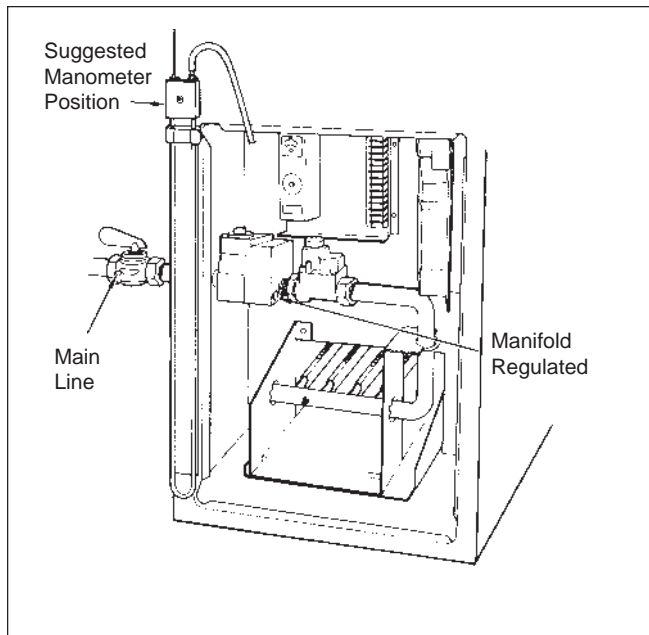

Figure 34. Gas pressure test.
1. Attach a manometer (or a dry gas pressure gauge) to heater jacket (see Figure 34).